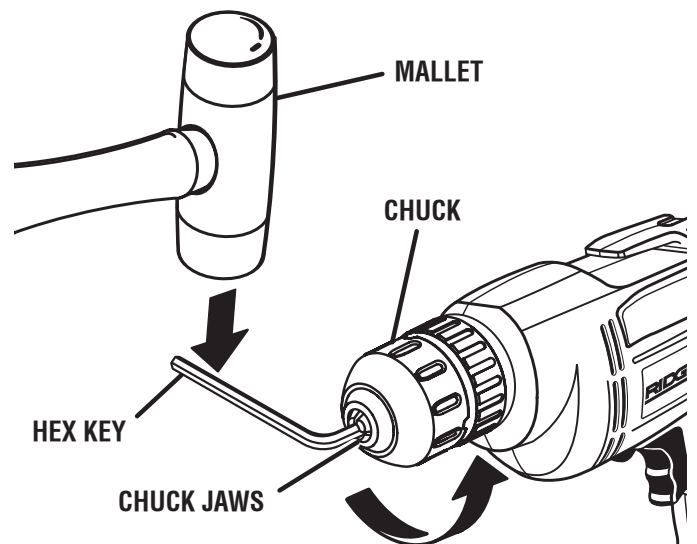

Fig. 12
- Insert hex key into chuck and tighten chuck jaws securely. Tap sharply with a mallet in a counterclockwise direction. This will loosen the chuck on the spindle. It can now be unscrewed by hand. See Figure 12.